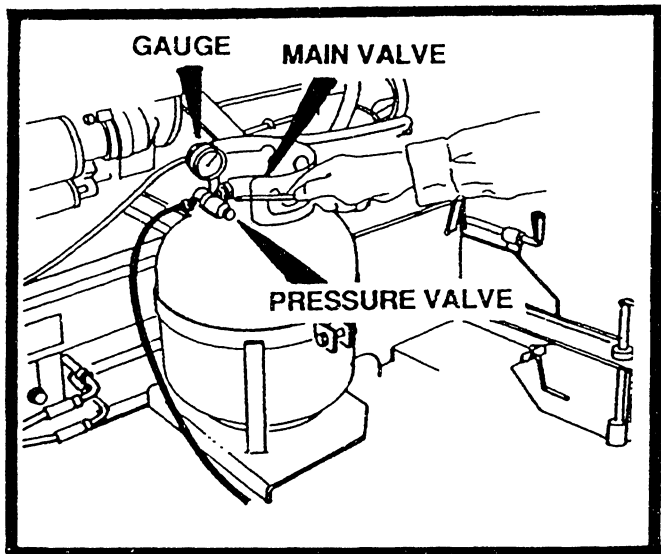

FIGURE 8
1. Turn main valve on the propane tank counter-clockwise to "on" position as shown in figure 8.
2. Adjust pressure valve in or out until gauge reads between 6 and 8 pounds as shown in figure 8.